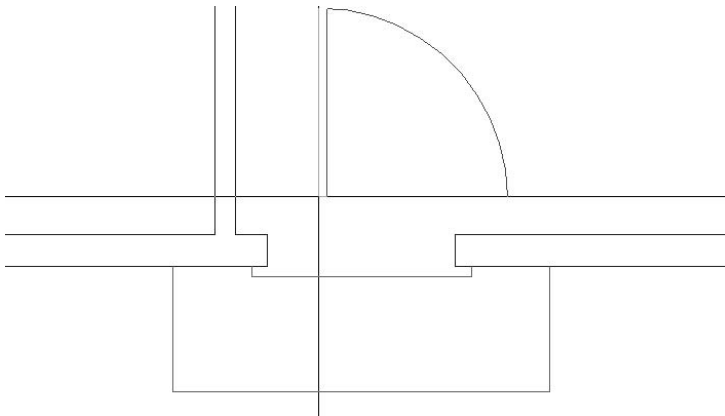

FIGURE 7.6: The door3_0 block attached to the cursor
3. Click OK. You are returned to your drawing, and the door3_0 block is now attached to the cursor, with the hinge point coinciding with the intersection of the crosshairs (see Figure 7.6). The Command window reads Specify insertion point or [Basepoint/Scale/X/Y/Z/Rotate/PScale/PX/PY/PZ/PRotate]:.